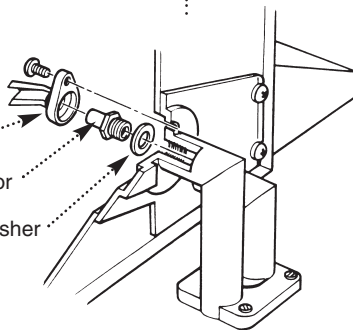

Fig. 121
11.12 Pilot Burner Injector (Fig. 121)